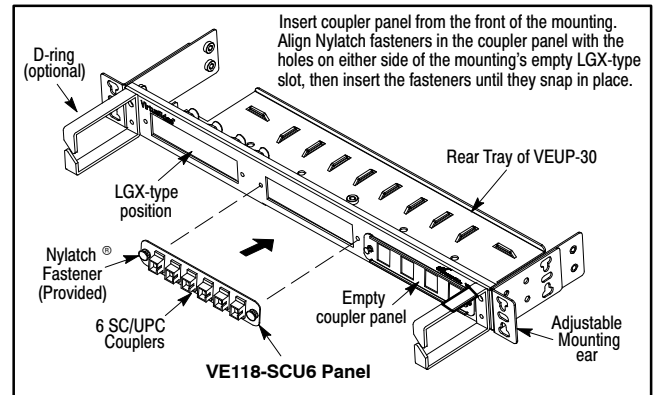
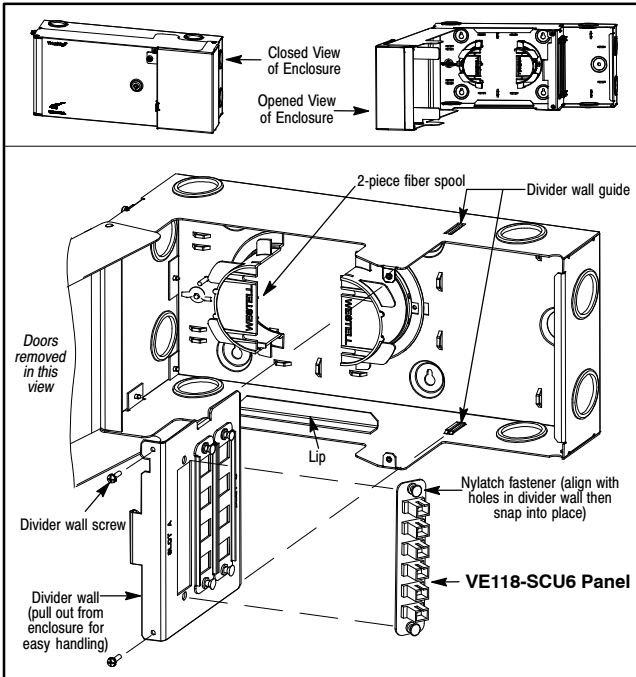

Figure 2. Installing VE118-SCU6 Panel in a VEUP-30
Figure 3. Installing Panel Inside a VEUE-30 Enclosure
The VirtualEdge (VE) VE118-SCU6 is a panel which contains six SC/UPC couplers secured in an LGX-sized faceplate that can be installed in Westell VirtualEdge mountings. As shown in Figure 2 and Figure 3, this panel mounts in a VirtualEdge mounting or enclosure that contains LGX-sized cut-outs or positions. Two provided snap-in Nylatch® fasteners are used to secure the panel in the mounting. See Table 1 below for model numbers of specific Westell VirtualEdge mountings which accept the panel.
Always follow local company practices and procedures when installing equipment. If none exist, follow the steps below to install the panel. Consult Figure 2 and Figure 3 as needed while performing these steps.